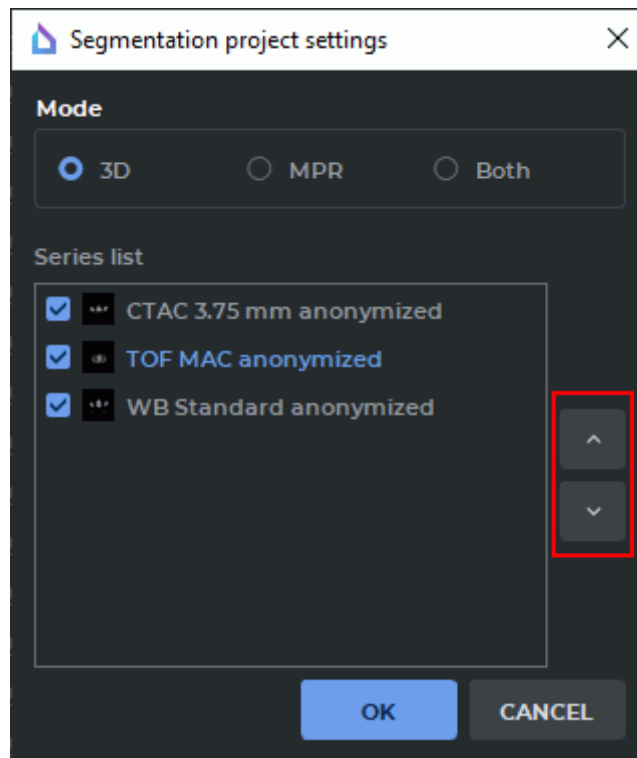

Figure 6.39: Dialog box for selecting the project opening parameters
1. In the main menu, select **File->Open project as....** A window will pop up, in which you will have to choose the file containing the project for this series. Click **Open** to open the project or **Cancel** to cancel the action. The dialog box shown in Fig. 6.39 will pop up.
4. The order in which the series are displayed is important for working with the project. By default, the series are displayed in the **Series list** in the same order as when the segmentation project was saved. To change the series order, highlight a series in the **Series list** box. Use **Move up** and **Move down** buttons (indicated by the red frame in Fig. 6.39) to move the selected series up or down.